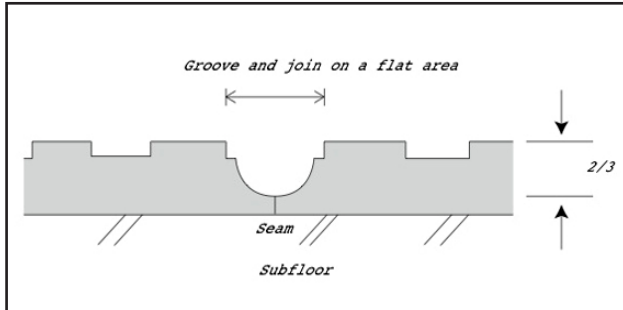

Fig. 10
- Groove only wide enough to accept a maximum 3.5mm welding thread. Groove depth should be two-thirds ($\frac{2}{3}$) of the product thickness. See Fig. 10.